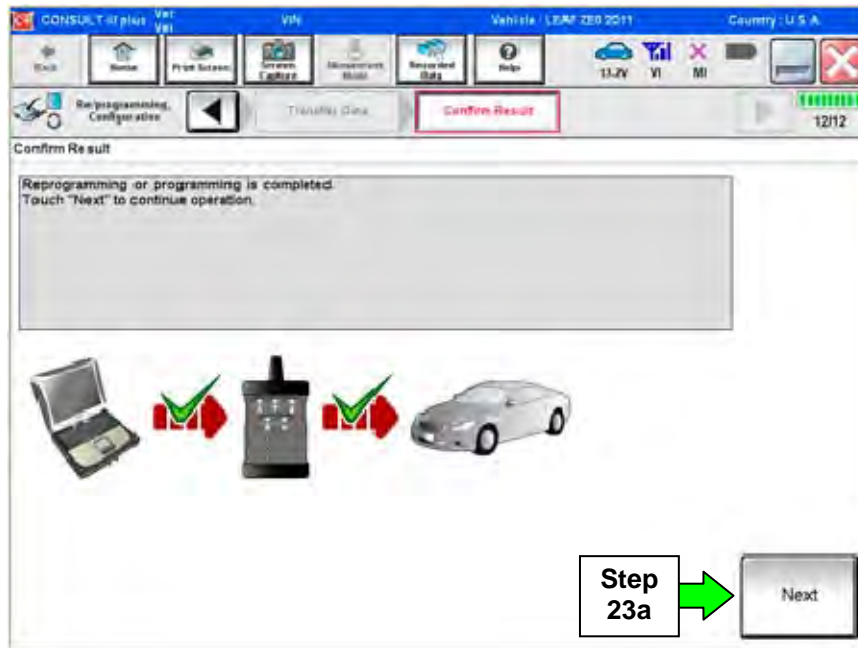

Figure 18
23. When the screen in Figure 18 appears, reprogramming is complete.